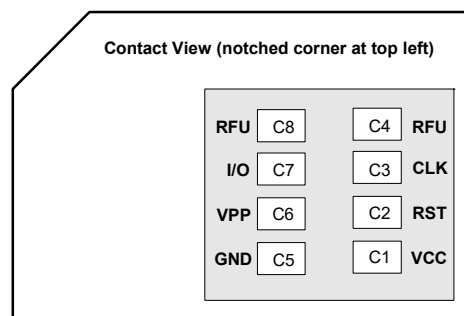

Figure 3-4: SIM Card Contacts (Contact View)
a. See Figure 3-4 on page 28 for SIM card contacts.